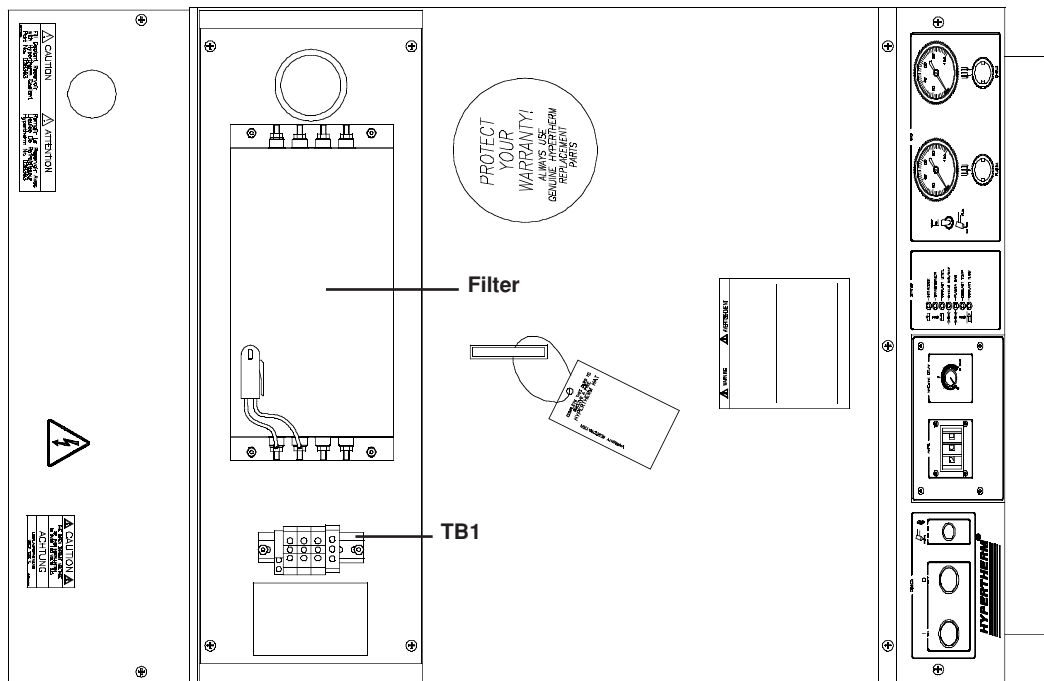

Figure e-2 MAX200 Power Supply with EMI Filter Cover Off – Top View
2. Unscrew the four filter cover screws and remove cover to access input voltage connections at TB1 (see Figure e-2).